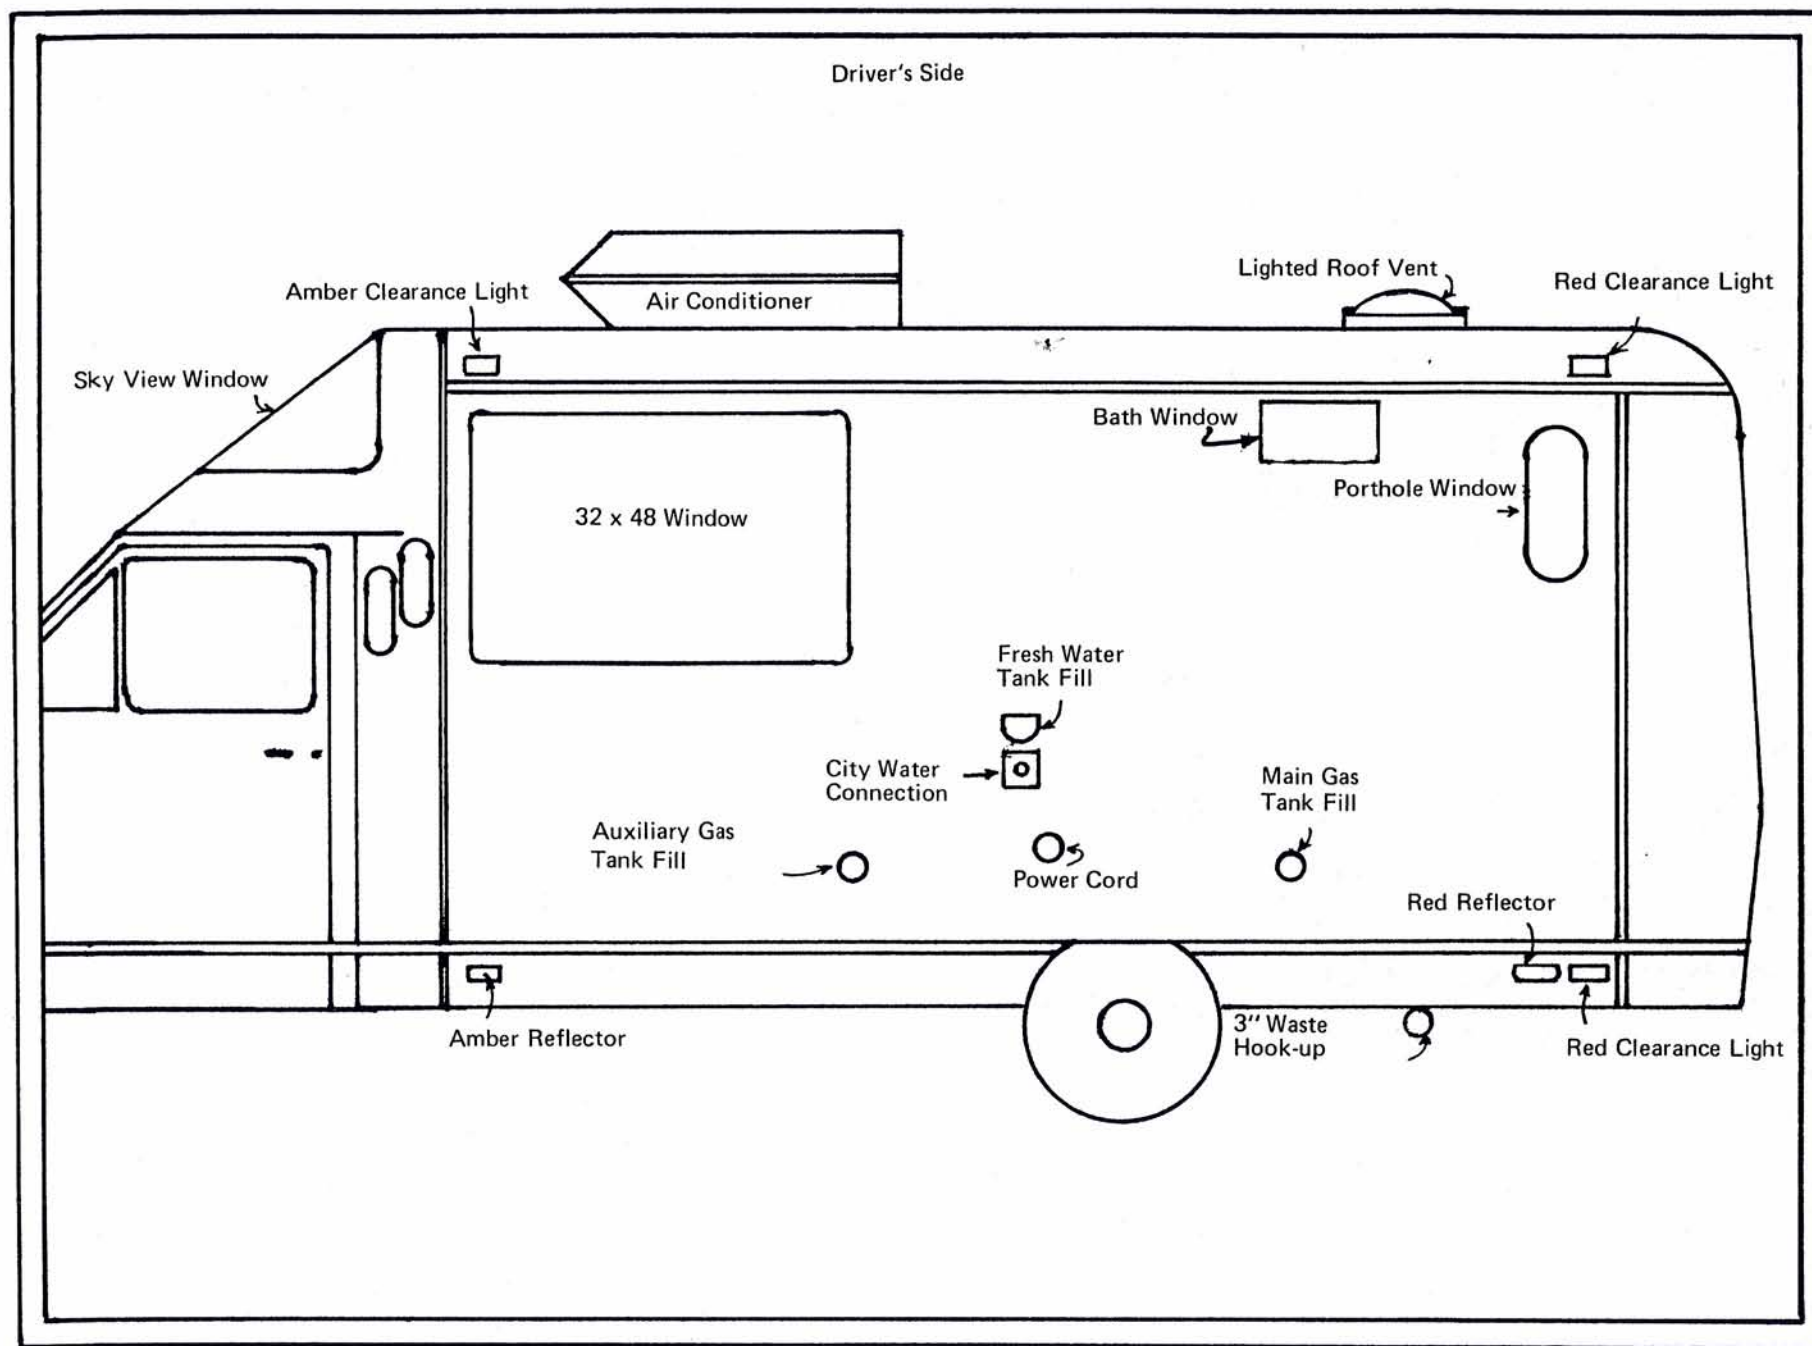
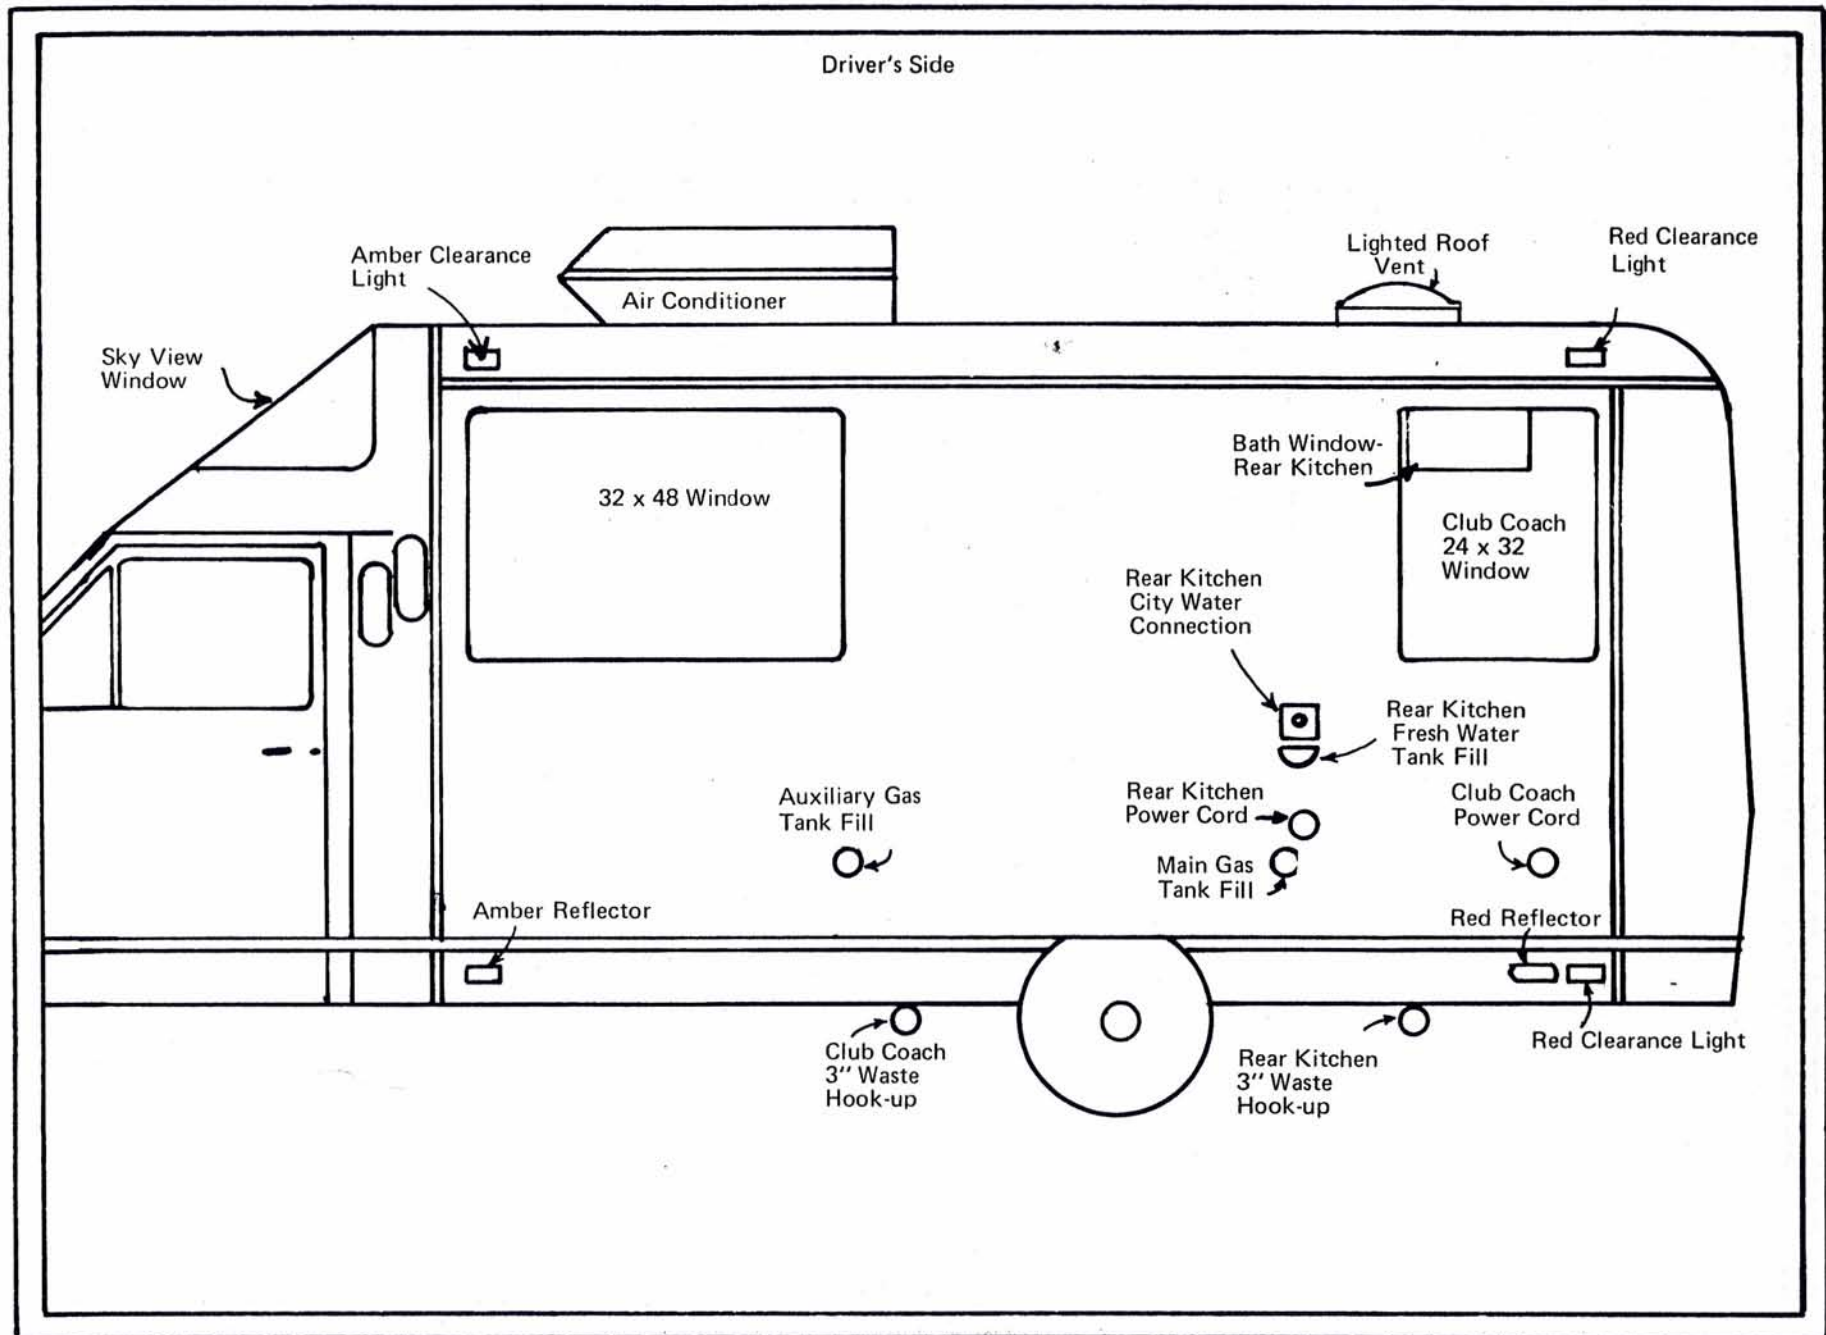

FIGURE 2
FIGURE 4
- a. Ford Chassis--The MotorCoach is equipped with a standard gas tank with a capacity of 24.6 gallons and an optional auxiliary tank with a capacity of 18 gallons for a total capacity of 42.6 gallons. (See Fig. 2 and Fig. 4 for location.)